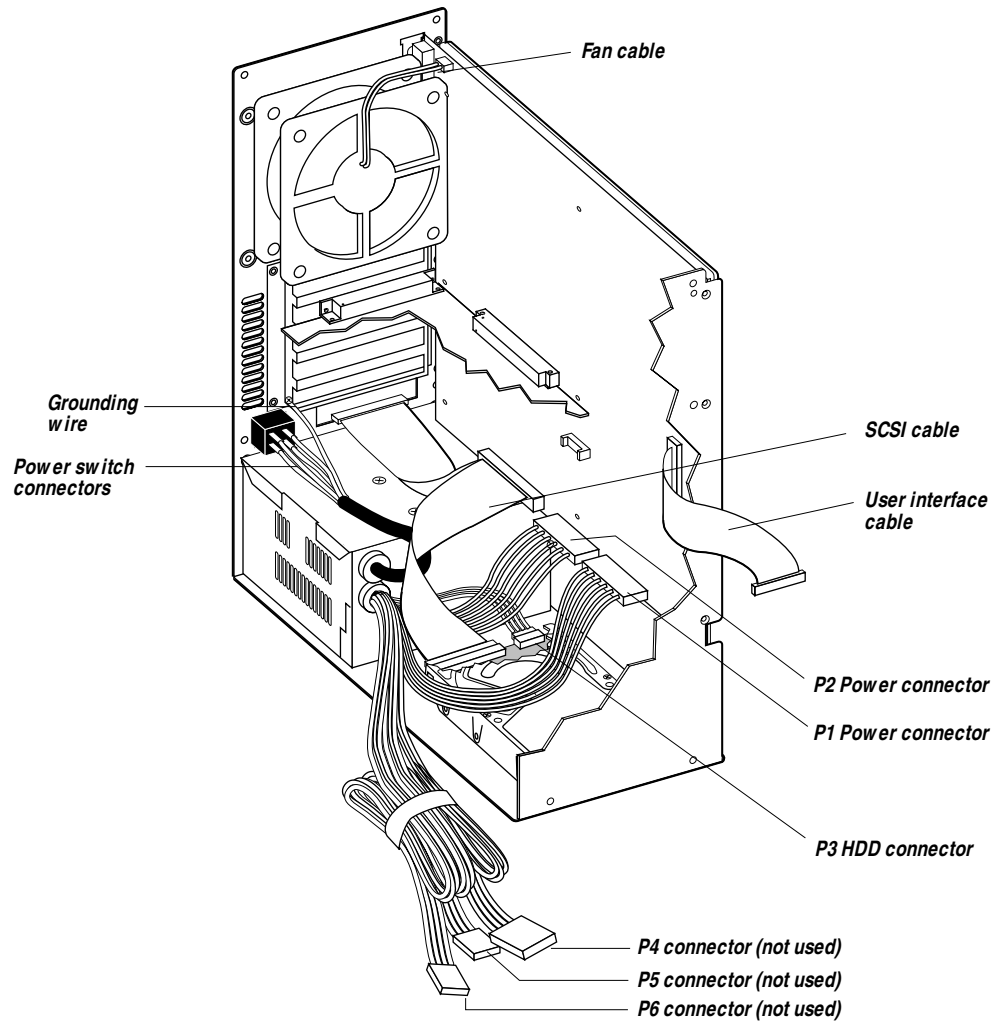

Figure 5-5 Cable connections in the Fiery XJ BP100
5. ***Make sure that all Fiery XJ BP100 ribbon cables are seated on connectors. See Figure 5-5 on page 5-9 and Table 5-1 on page 5-10.***